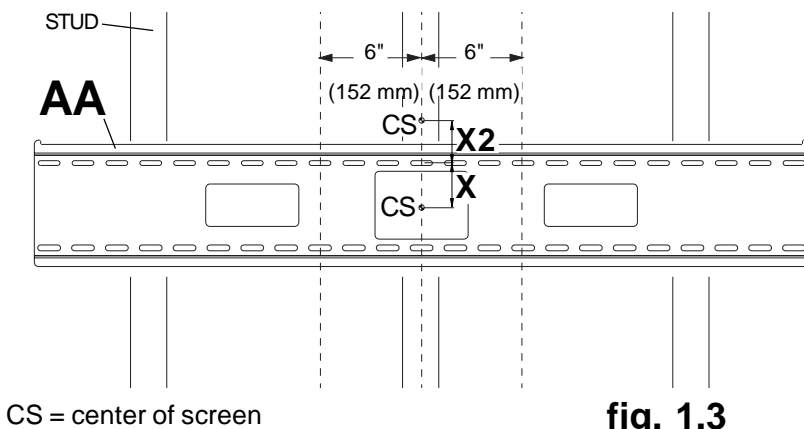
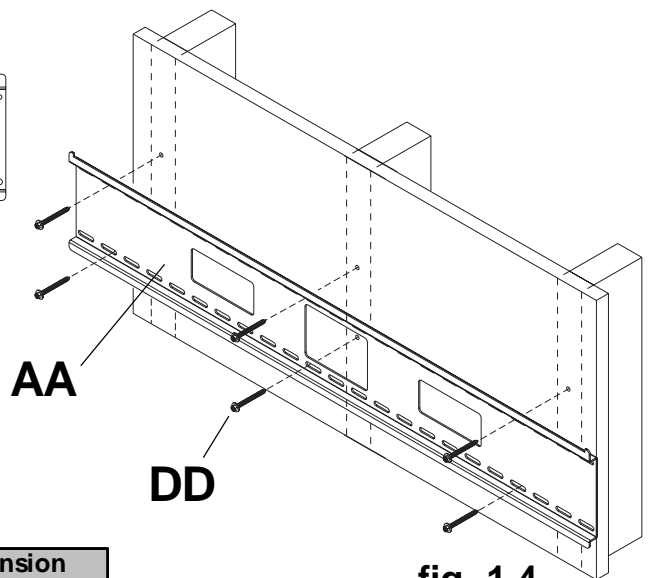

fig. 1.3
fig. 1.4
**1** Wall plate (**AA**) can be mounted to three studs that are 16" apart. Use a stud finder to locate the edges of the studs. Use of an edge-to-edge stud finder is highly recommended. Based on their edges, draw a vertical line down each stud's center. Place wall plate on wall as a template. The top mounting slots should be located above the desired screen center as indicated by dimension **X** in figure 1.3 and chart below. Level plate, and mark the center of the six mounting holes. Make sure that the mounting holes are on the stud centerlines. Drill six 5/32" (4 mm) dia. holes 2-1/2" (65 mm) deep. Make sure that the wall plate is level, secure it using six #14 x 2.5" wood screws (**DD**) as shown in figure 1.4.
**NOTE:** When mounting equipment weighing greater than 200 lbs, triple stud mounting is strongly recommended. If mounting to two studs on 16" centers, leave an open stud in center. Wall plate may be mounted up to 6" (152 mm) off-center as shown in figure 1.3.